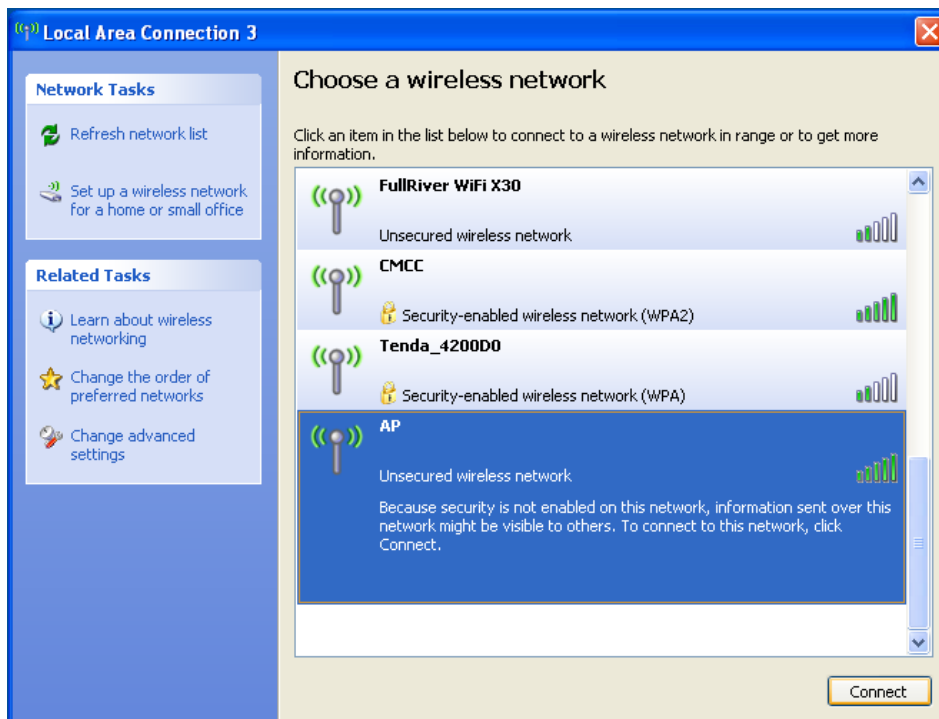

Figure 9
2. The screen displayed, the currently scanned wireless networks. If the one you want to connect has not been scanned, click “Refresh Network List” to update the network list. Select the wireless network you want to connect, and click “Connect” or double click this wireless network then click “Connect”.(Figure 9)